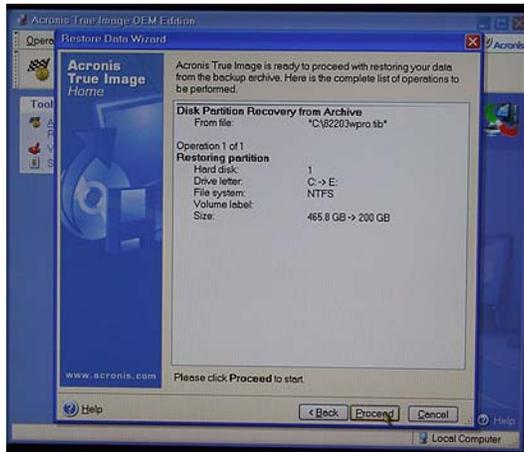

Figure 2-62
- 31) Simply click the **Next** button to be presented with the **Restore Data Wizard** summary screen (Figure 2-62)